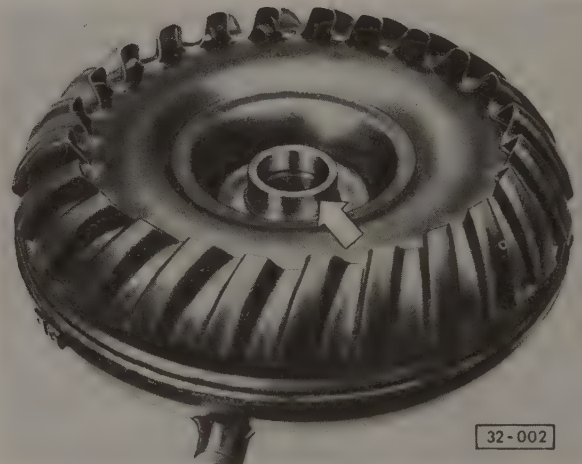

Fig. 5-8. Torque converter oil seal hub (arrow).
3. Check the torque converter oil seal hub for wear. See Fig. 5-8. Remove sharp edges and burrs with emery cloth. If the hub is deeply scored, the torque converter should be replaced.